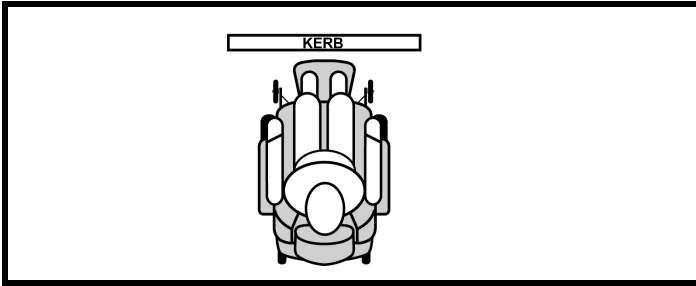

Figure 2. Correct Kerb Approach
1. Approach the kerb or obstacle slowly, and make sure the Go-Chair is traveling perpendicular to the obstacle. See figure 2.